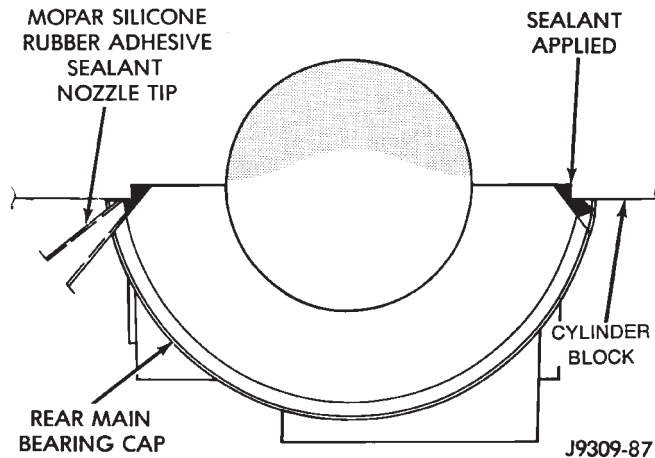

Fig. 44 Apply Sealant to Bearing Cap to Block Joint
(9) To align the bearing cap, use cap slot, alignment dowel and cap bolts. DO NOT remove excess material after assembly. DO NOT strike rear cap more than 2 times for proper engagement.
(10) Clean and oil all cap bolts. Install all main bearing caps. Install all cap bolts and alternately tighten to 115 N·m (85 ft. lbs.) torque.
(11) Install oil pump.
(12) Apply Mopar® Silicone Rubber Adhesive Sealant, or equivalent, at bearing cap to block joint to provide cap to block and oil pan sealing (Fig. 44). Apply enough sealant until a small amount is squeezed out. Withdraw nozzle and wipe excess sealant off the oil pan seal groove.
(13) Install new front crankshaft oil seal.
(14) Immediately install the oil pan.
(10) To align the bearing cap, use cap slot, alignment dowel and cap bolts. DO NOT remove excess material after assembly. DO NOT strike rear cap more than 2 times for proper engagement.
(11) Install the rear main bearing cap with cleaned and oiled cap bolts. Alternately tighten ALL cap bolts to 115 N·m (85 ft. lbs.) torque.
(12) Install oil pump.
(13) Apply Mopar® Silicone Rubber Adhesive Sealant, or equivalent, at bearing cap to block joint to provide cap to block and oil pan sealing (Fig. 44) (Fig. 8). Apply enough sealant until a small amount is squeezed out. Withdraw nozzle and wipe excess sealant off the oil pan seal groove.
(10) Install the rear main bearing cap with cleaned and oiled cap bolts. Alternately tighten the cap bolts to 115 N·m (85 ft. lbs.) torque.
(13) Immediately install the oil pan.